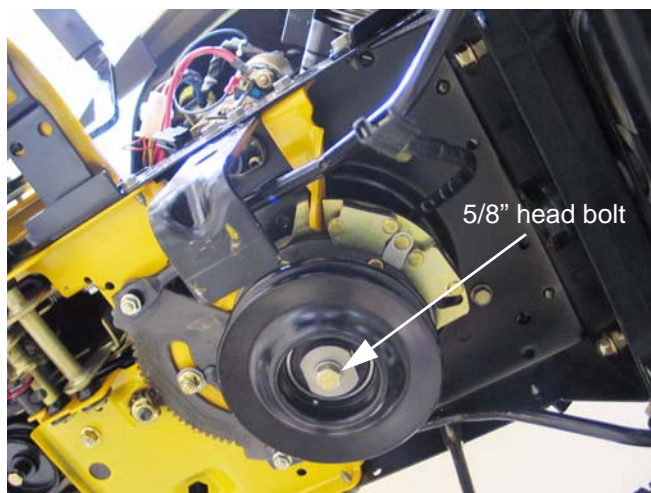

Figure 30.4
- 30.4. Remove the electric PTO clutch from the engine crankshaft using a 5/8" wrench. See Figure 30.4.